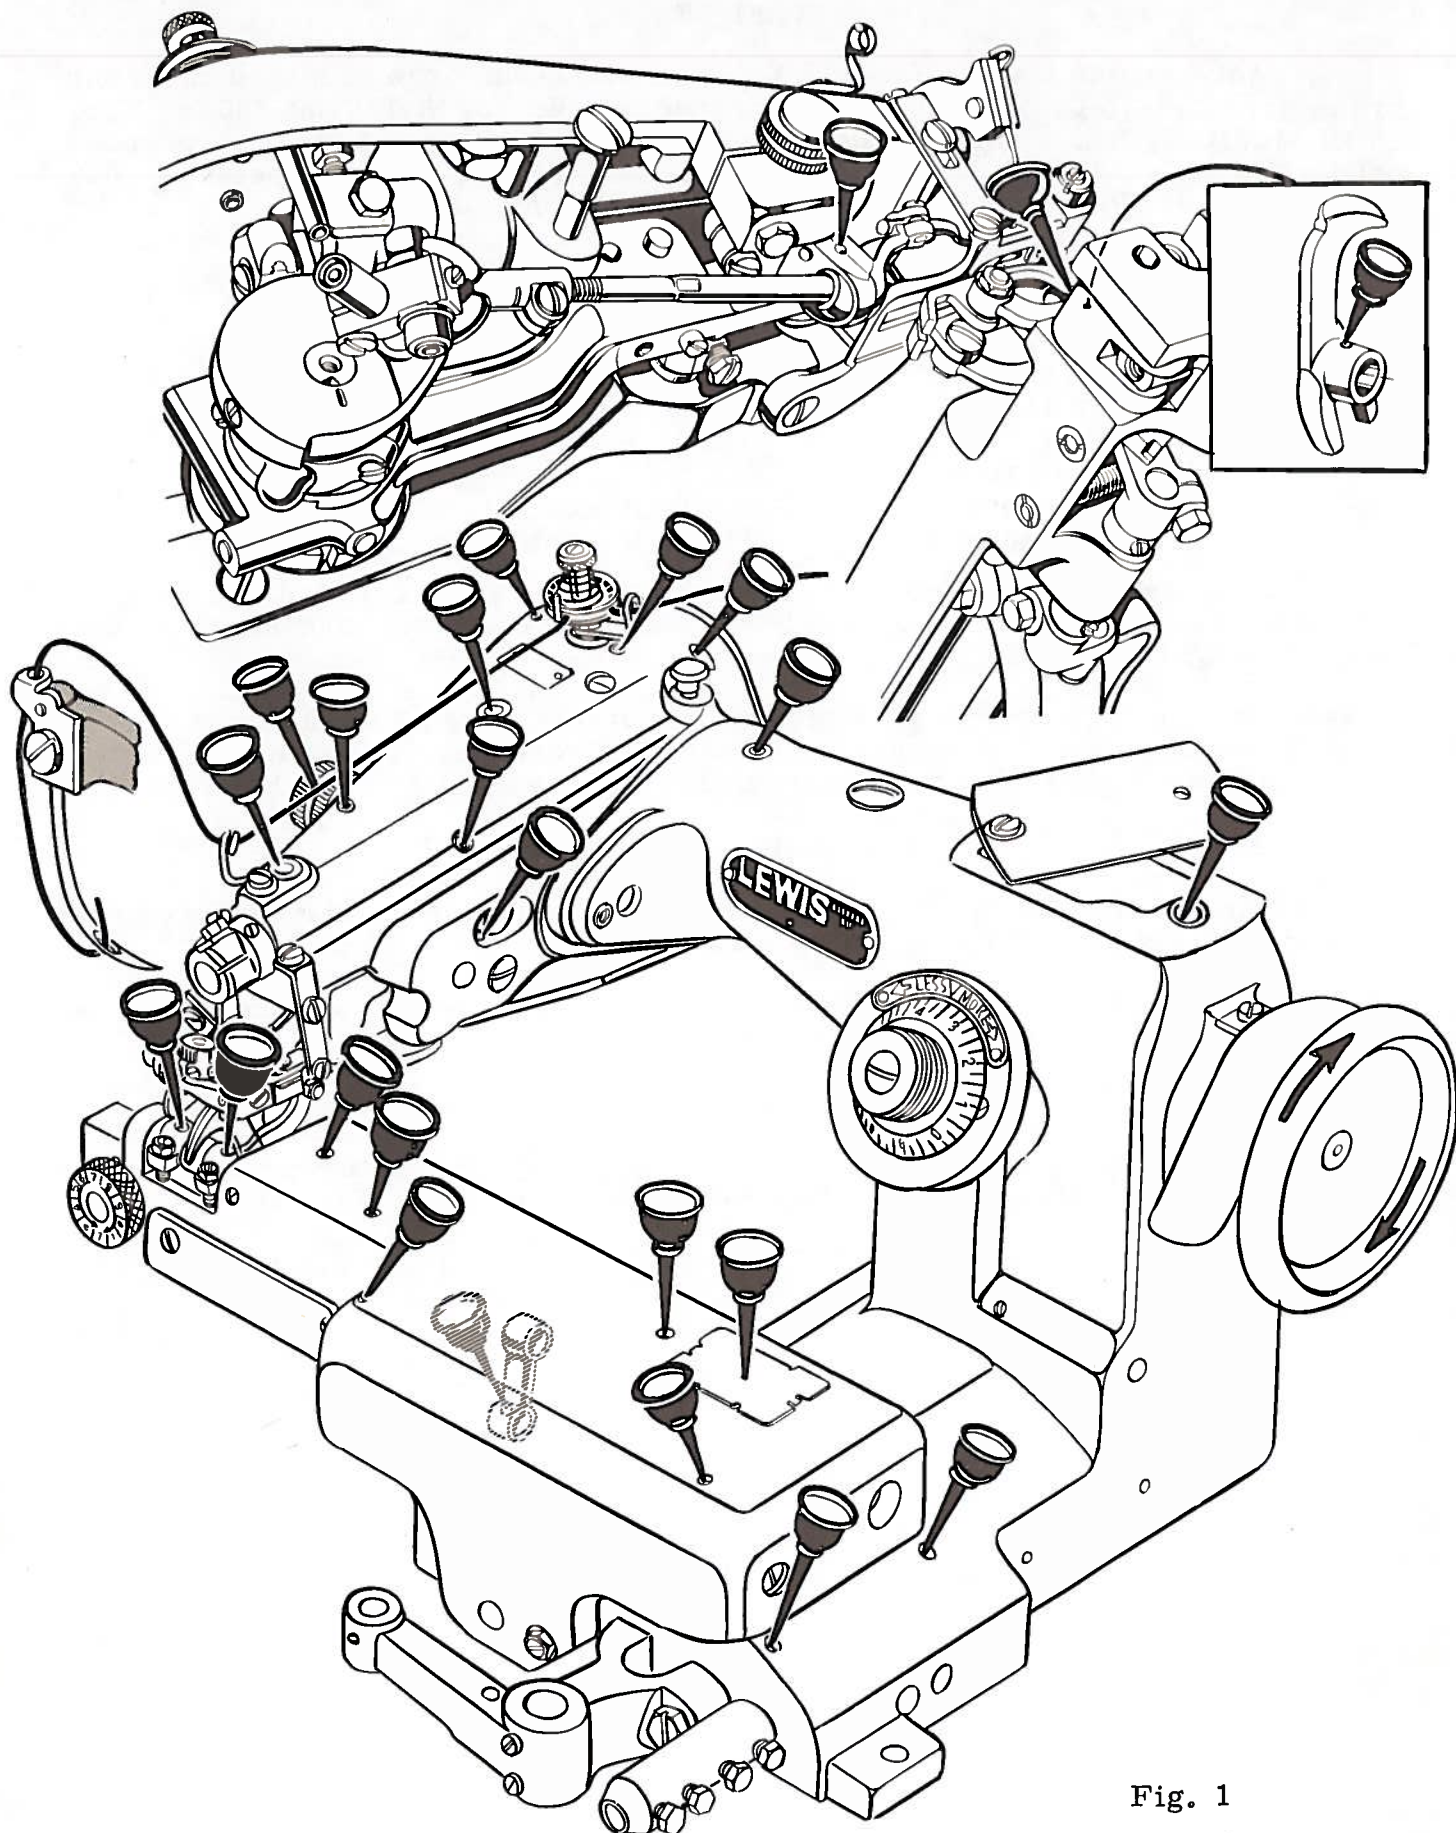

Fig. 1
The machine should be oiled twice daily, before the morning and afternoon starts. Use a good grade of straight mineral oil with a Saybolt viscosity of 90 to 125 seconds at 100° Fahrenheit. Oiling places on the machine are painted red. However, reference to the oiling diagram (Fig. 1) will be beneficial.
To thread the machine, turn handwheel in operating direction until the needle carrier is in its highest position. Refer to threading diagram (Fig. 1).
1. Thread machine in accordance with threading diagram (Fig. 1).